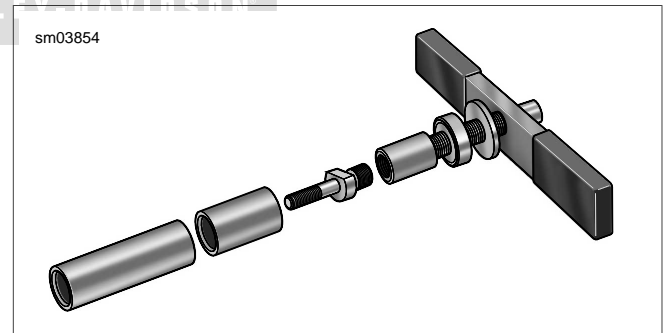

Figure 3-134. Sprocket Shaft Bearing Installer (Part No. HD-97225-55C)
- See Figure 3-134. Obtain the SPROCKET SHAFT BEARING INSTALLER (Part No. HD-97225-55C). Assemble tool as described below.